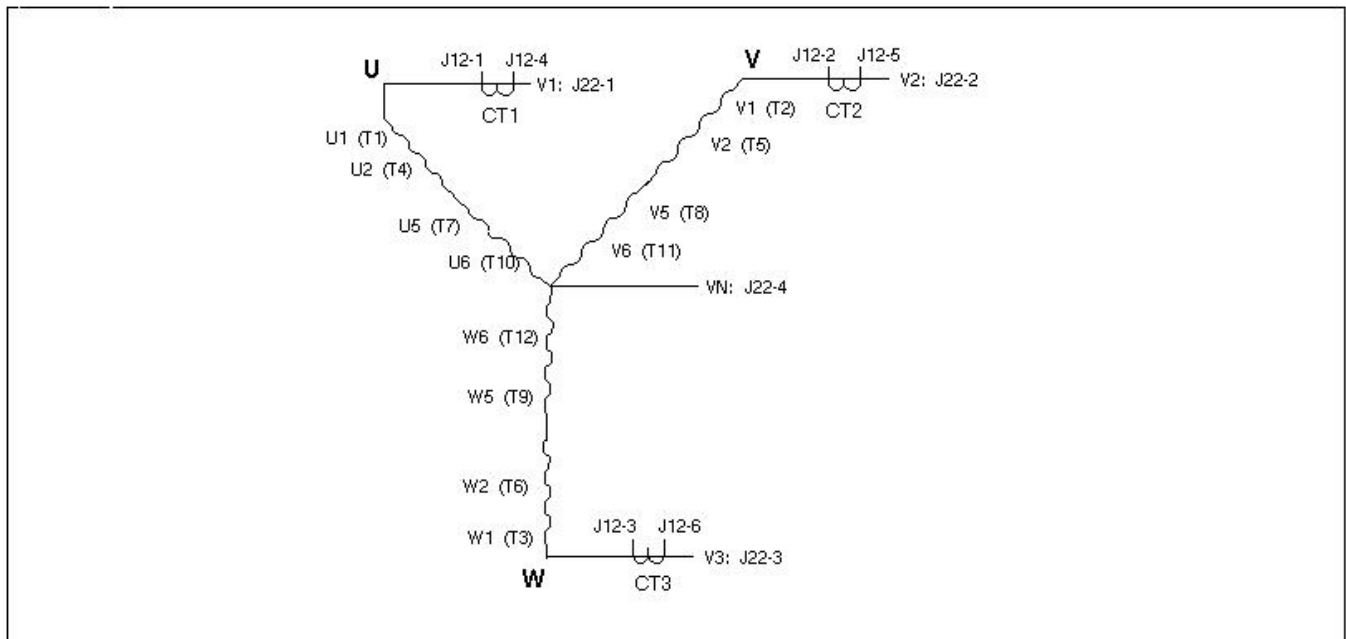

FIGURE 74. ALTERNATOR CONNECTIONS: SERIES STAR
- Figure 74. Alternator Connections: Series Star 451